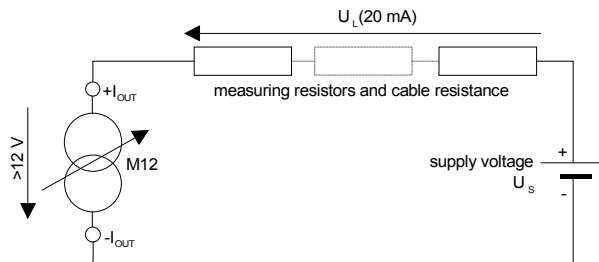

Figure 23: 4-20 mA loop circuit
The 4-20 mA output acts as a current drain. Therefore, a voltage supply is required in the loop circuit. Figure 23 shows the loop principle. The loop output of the M12 needs a minimum voltage of 12 VDC over the terminals +IOUT and -IOUT. Hence the voltage source (US) has to be designed as follows: